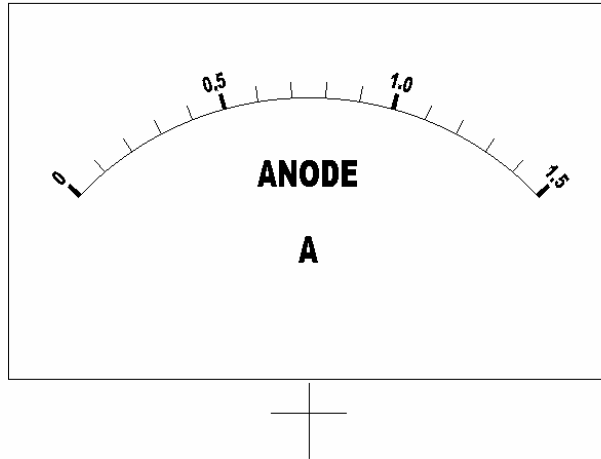

Figure 8: A meter scale re-drawn using AutoSketch.
- Re-draw the complete meter face using a CAD package, and glue the printout on to the existing scale plate. This is a lot more effort, but the results look very professional (Figure 8).